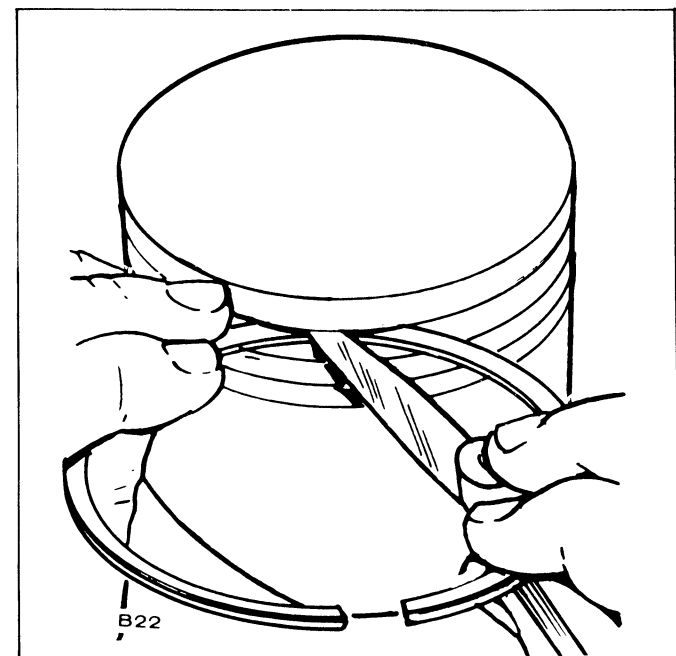

FIGURE 32. CHECKING RING SIDE CLEARANCE
1. Inspect the pistons for fractures at the ring lands, skirts and pin bosses. Check for wear at the ring lands using a new ring and feeler gauge as shown in Figure 32. Replace the piston when the side clearance of the top compression ring reaches 0.004 inch.